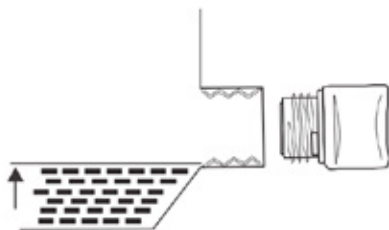

Figure 4: Engine Oil Correct Level
- The engine is filled with engine oil (see Figure 4: *Engine Oil Correct Level* on page 11).